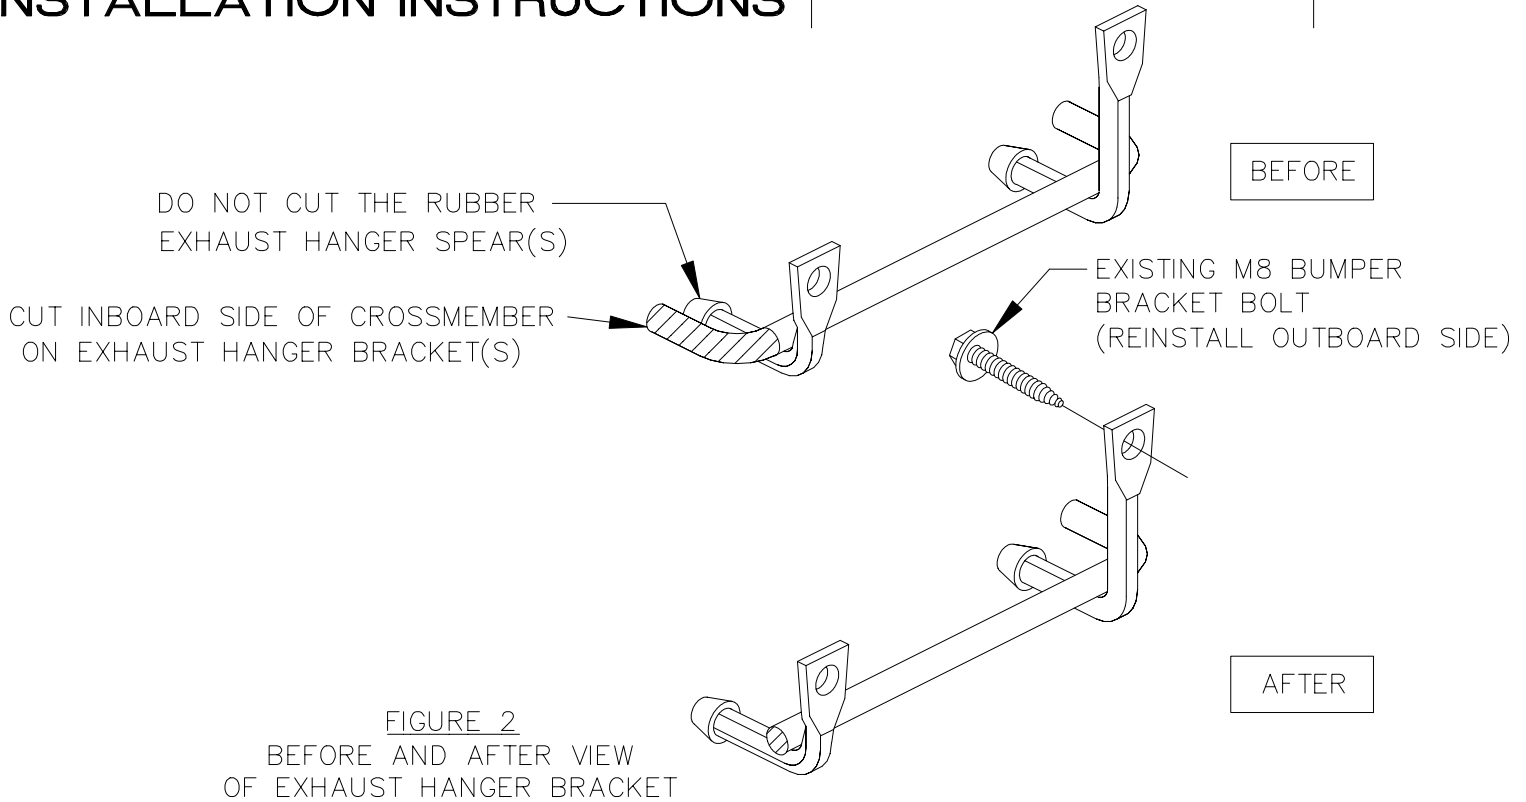

FIGURE 2
1. LOWER THE EXHAUST SYSTEM(S) BY UNBOLTING THE M8 EXHAUST HANGER/BUMPER BRACKET BOLTS
2. DISCONNECT HANGER BRACKET(S) FROM EXHAUST SYSTEM(S), MODIFY EXHAUST HANGER BRACKET(S) AS SHOWN IN FIGURE 2 AND LOOSELY REINSTALL M8 FASTENER THRU OUT BOARD WELDNUT.